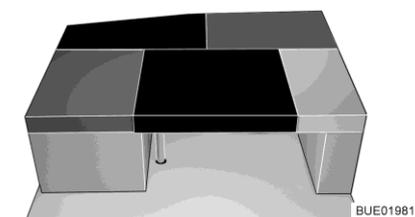

Fig. 166 After conversion
- Place the rectangular additional cushion on the table (between the seat cushion and the back cushion of the lateral seat, see Fig. 166).